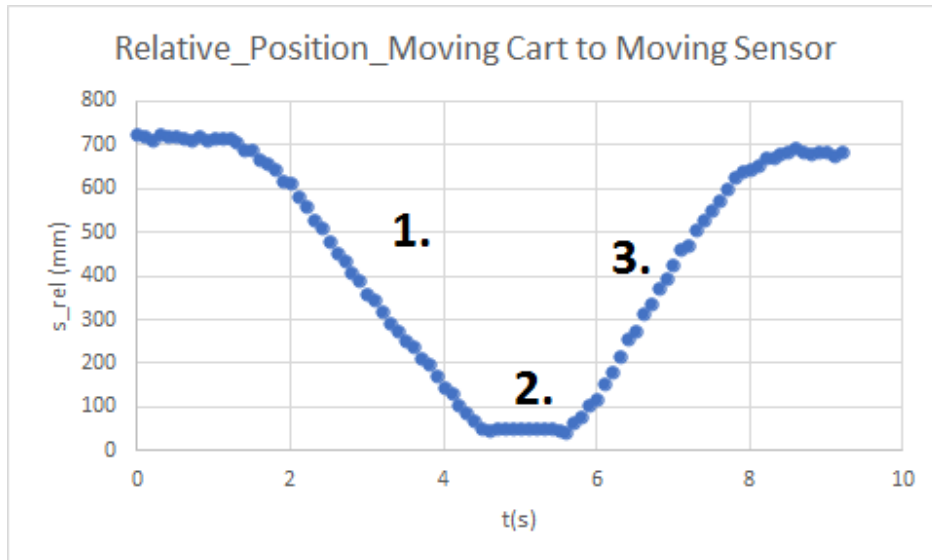

Figure 8. Relative position vs. time of the Cart to Sensor, both moving in opposite directions.
- Now open the relative\\_motion\\_opposite.csv file in Excel or in LibreOffice installed on the Raspberry Pi. A more accurate analysis of the recorded relative position of the Cart with respect to the sensor at different instants is possible. The relative position vs. time of the Cart and Sensor moving in opposite directions is shown in the Figure 8.